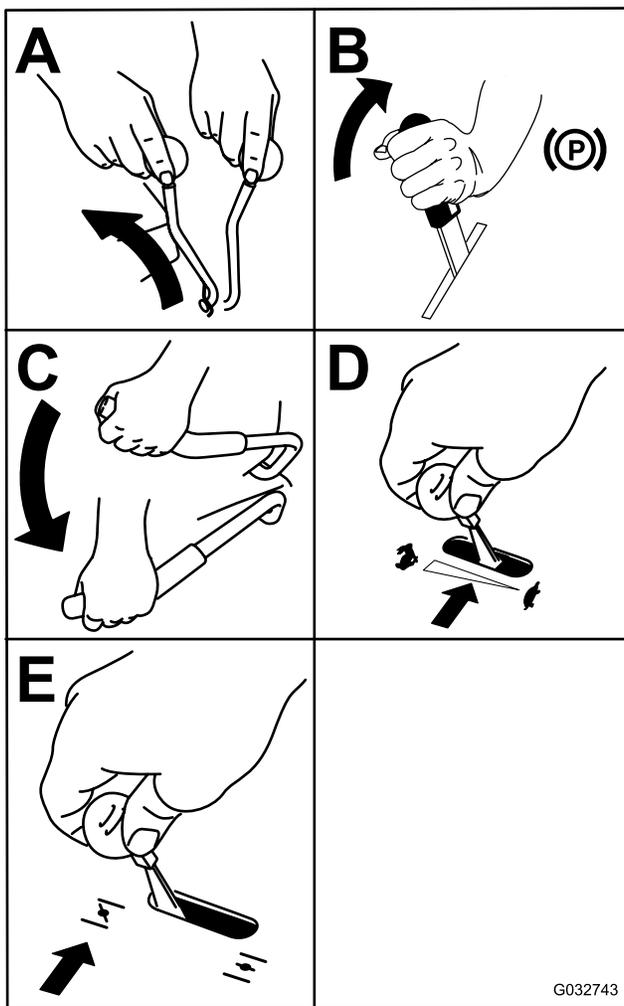

Figure 23
3. Move the PTO-engagement lever to the OFF position (Figure 23).